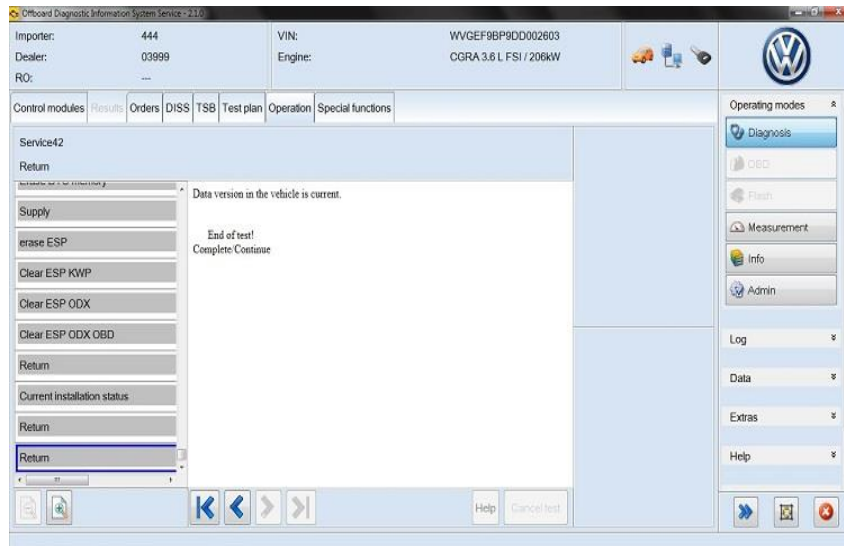

Figure 10
16. This completes the software adaptation “flash” (Figure 10).